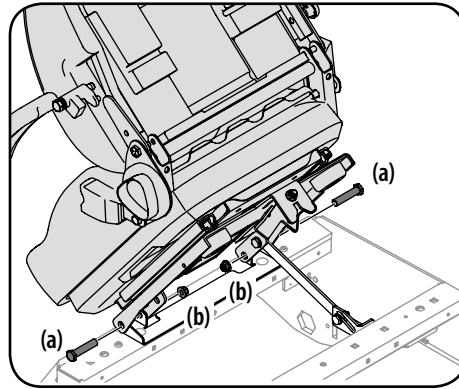

Figure 2-6
1. Remove the two flange lock nuts (b) and shoulder bolts (a) from the manual bag. See Figure 2-6.
2. Place the seat into position and secure the seat into place with the hardware as shown in Figure 2-6.